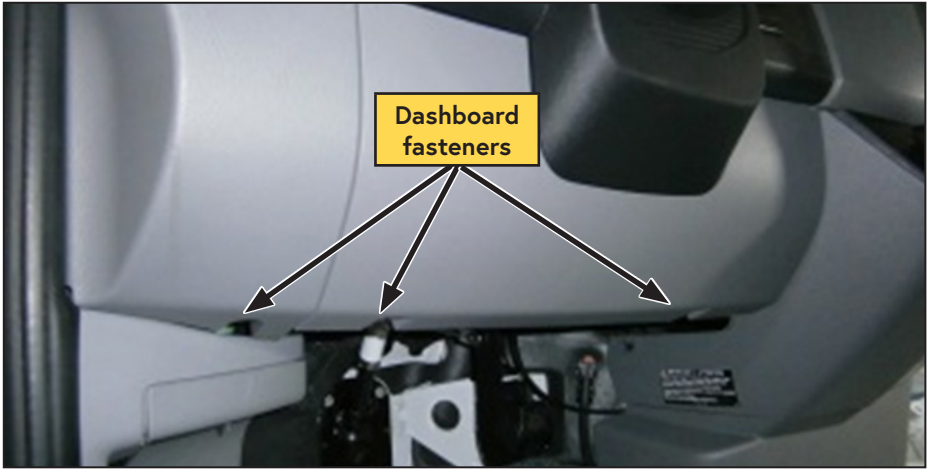

Figure 57 — Remove lower dashboard panels
- Remove the driver side lower dashboard panels (Figure 57).